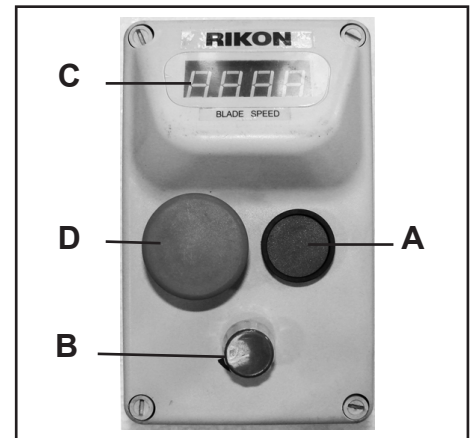

FIG. 28
In conjunction with the two speed pulley system, the 10-370 Wood/Metal bandsaw also features a variable speed switch. To use with in a specific belt speed range, simply turn the bandsaw on (FIG. 28, A) and rotate the variable speed dial (B) clockwise to increase the speed, and counter clockwise to decrease the speed. The blade speed will be indicated on the digital readout display (C). To stop the bandsaw press the large red button (D).